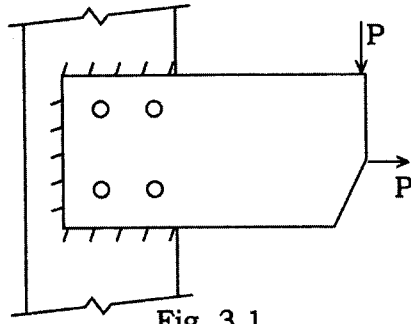

Fig. 3.1
- (b) A bracket is connected with ISMB650 as shown in Fig. 3.1. Enlist possible types of failures in this connection. Explain each failure with illustrative figures.